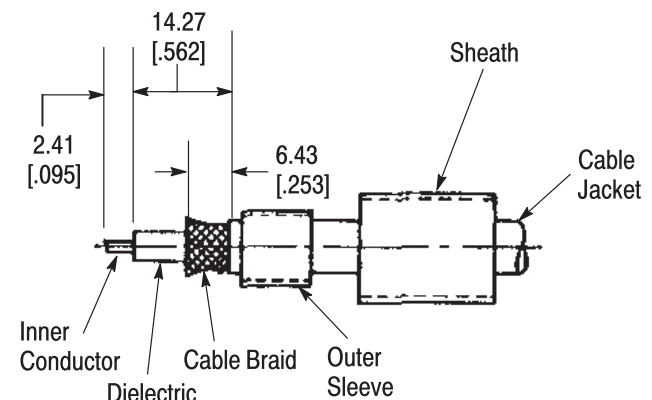

Figure 3
- Strip the cable according to the dimensions in Figure 3.